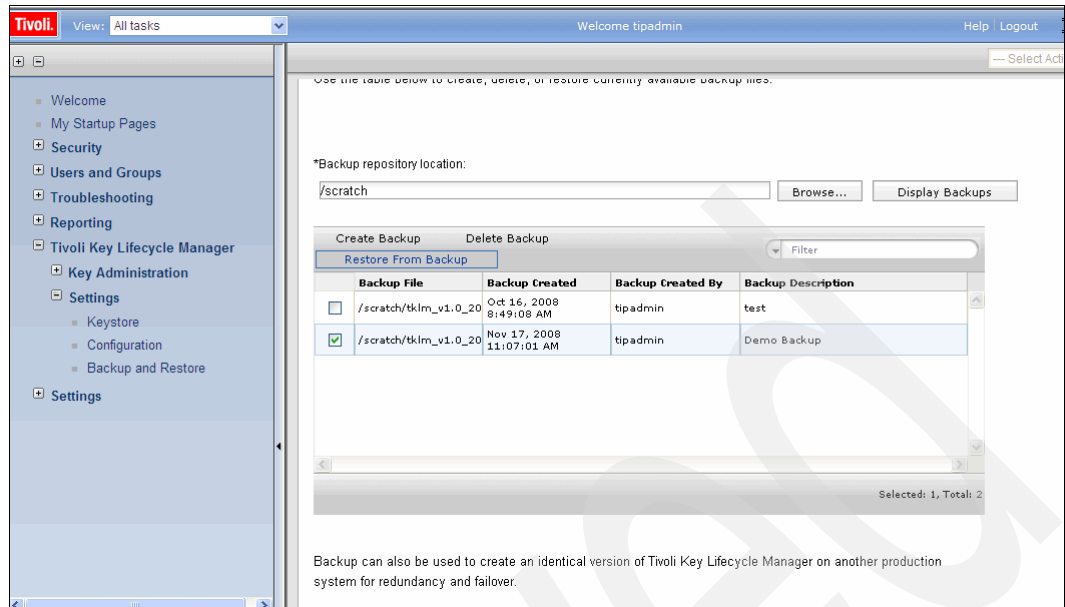

Figure 8-4 Select the backup file to restore
2. From the list of Backup Files, select the file that you want to restore and click **Restore From Backup** as shown in Figure 8-4.